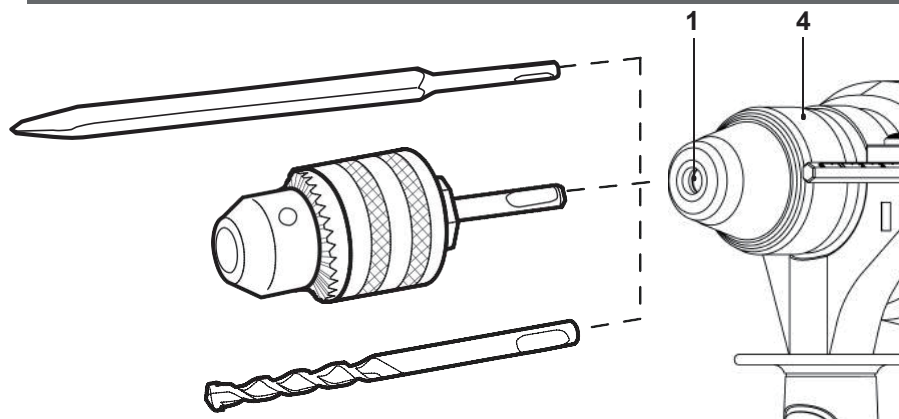

Fig. 1
- > Insert the SDS drill bit / chisel with a twist motion all the way to the stop into the chuck (1) (Fig. 1).